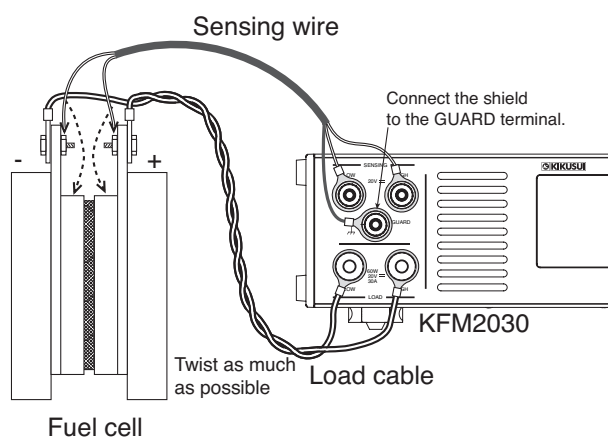

Fig.3-1 Connecting to the fuel cell
2. Connect the electrode plate of the fuel cell to the LOAD terminal using the load cable provided as shown in Fig. 3-1.